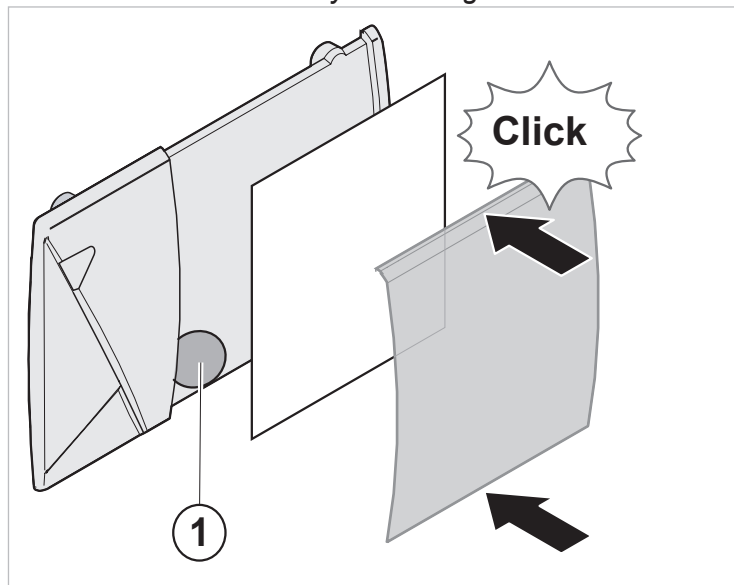

Fig. 13 Placing the access chip and closing the cover
3. Place the access chip (1, Fig. 13) behind the name tag.